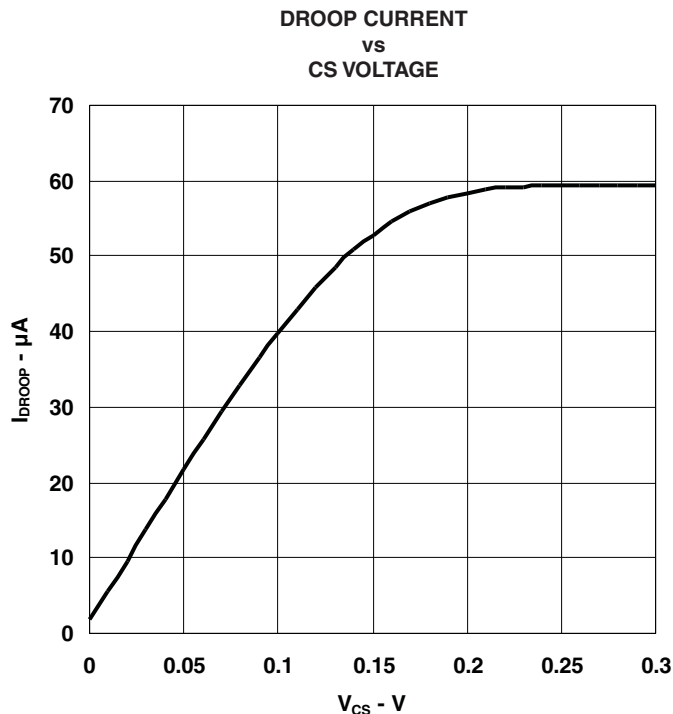

Figure 6.
(1) I_{DROOP} is relatively linear vs V_{CS} and is typically 40 μA at $V_{\text{CS}} = 100 \text{ mV}$. Above $V_{\text{CS}} = 100 \text{ mV}$, I_{DROOP} becomes nonlinear, rolls off, and saturates to approximately 50 μA to 65 μA when $V_{\text{CS}} > 200 \text{ mV}$ (see Figure 6). Thus, above 100 mV, Equation 9 is not accurate.